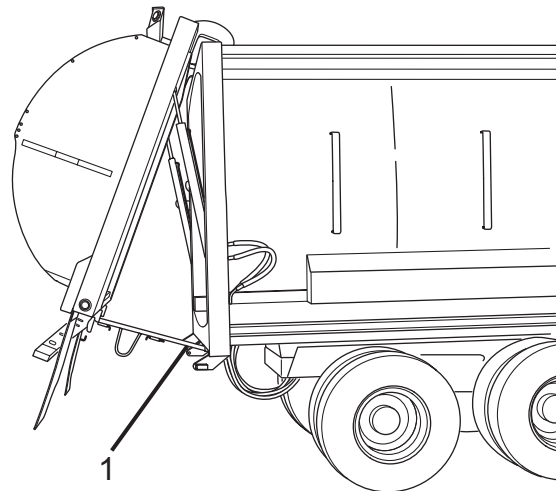

Figure 19
6. Start chassis engine and lower the tailgate until the prop is fully seated in the pocket (Figure 19, Item 1).